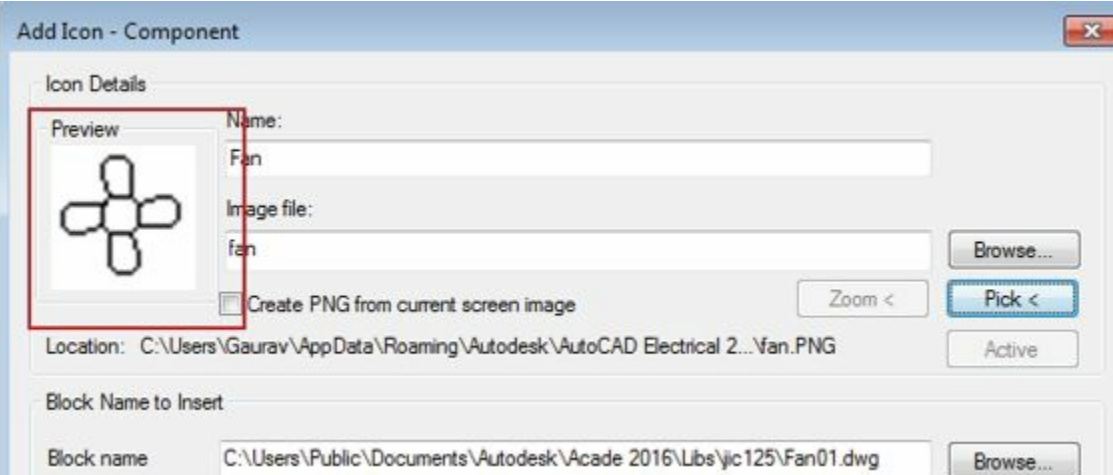

Figure-57. Preview of Icon
- Select the sketch of symbol from the drawing area. Note that you must have the symbol drawing open in AutoCAD Electrical to select the sketch of symbol. Preview of symbol will be displayed in the dialog box; refer to Figure-57.